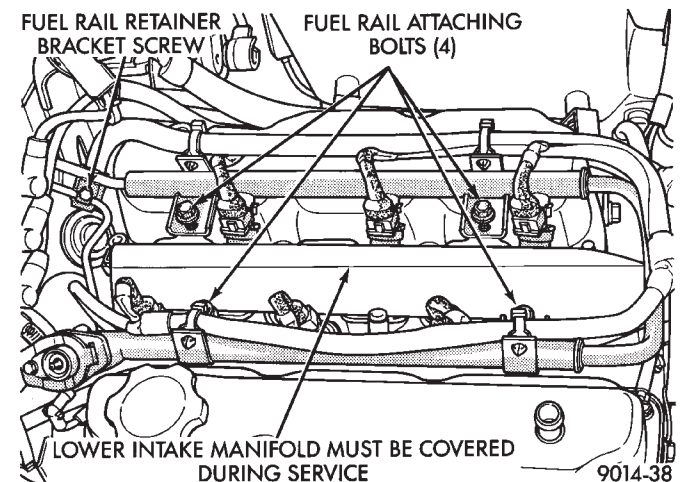
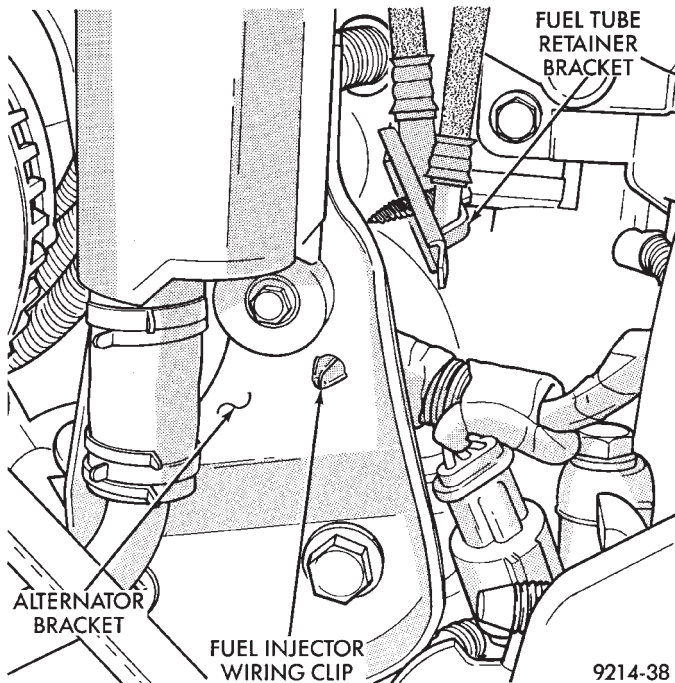

Fig. 12 Fuel Rail Attaching Bolts
Fig. 13 Fuel Injector Wiring Clip
(15) Cover intake manifold with suitable cover when servicing (Fig. 12).
(16) Remove vacuum harness connector from Fuel Pressure Regulator.
(17) Remove fuel tube retainer bracket screw and fuel rail attaching bolts (Fig. 12). Spread the retainer bracket to allow fuel tube removal clearance.
(18) Remove fuel rail injector wiring clip from the alternator bracket (Fig. 13).
(19) Disconnect cam sensor, coolant temperature sensor, and engine temperature sensors (Fig. 13).
(4) Install the fuel rail mounting bolts. Tighten bolts to 22 N•m (200 in. lbs.) torque (Fig. 12).
(5) Install fuel tube retaining bracket screw. Tighten screw to 4 N•m (35 in. lbs.) torque.
(6) Connect electrical connectors to cam sensor, coolant temperature sensor and engine temperature sensors (Fig. 13).
(7) Install fuel injector harness wiring clips on the alternator bracket and intake manifold water tube (Fig. 13).
(8) Connect vacuum line to fuel pressure regulator.
(9) Remove covering on lower intake manifold and clean surface.
(13) Tighten alternator bracket to intake manifold bolt to 54 N•m (40 ft. lbs.) torque (Fig. 13).